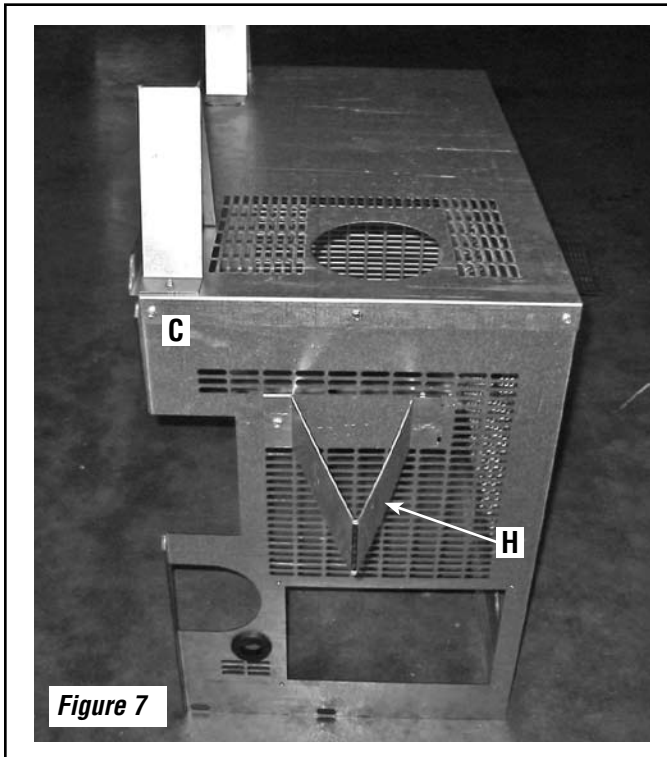

Figure 7
Step 6. Install the side stand-off brackets (H) and rear stand-off bracket (I) in the same manner explained above. **Figure 7** below shows these stand-offs installed.